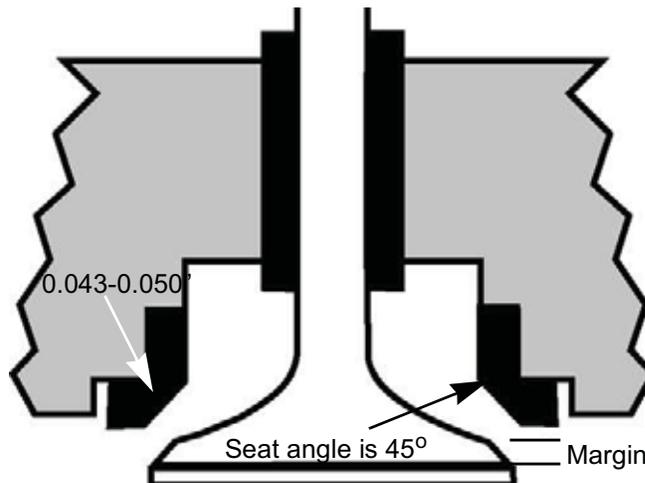

Figure 9.14
5. Inspect the valve seat. See Figure 9.14.